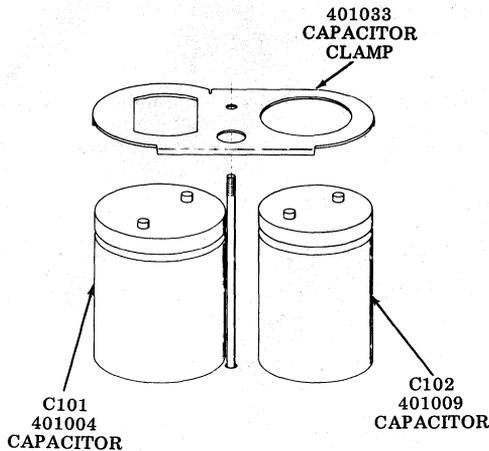

Fig. 28
- (c) Lift off the capacitor clamp and remove the two capacitors (Fig. 28).